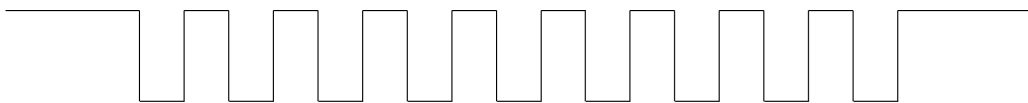

Figure 37-4. Master Clock Negative Waveform
- **Scenario 3:** The clock sent by the master device is not a free-running clock, and the clock waveform is as shown in Figure 37-4.